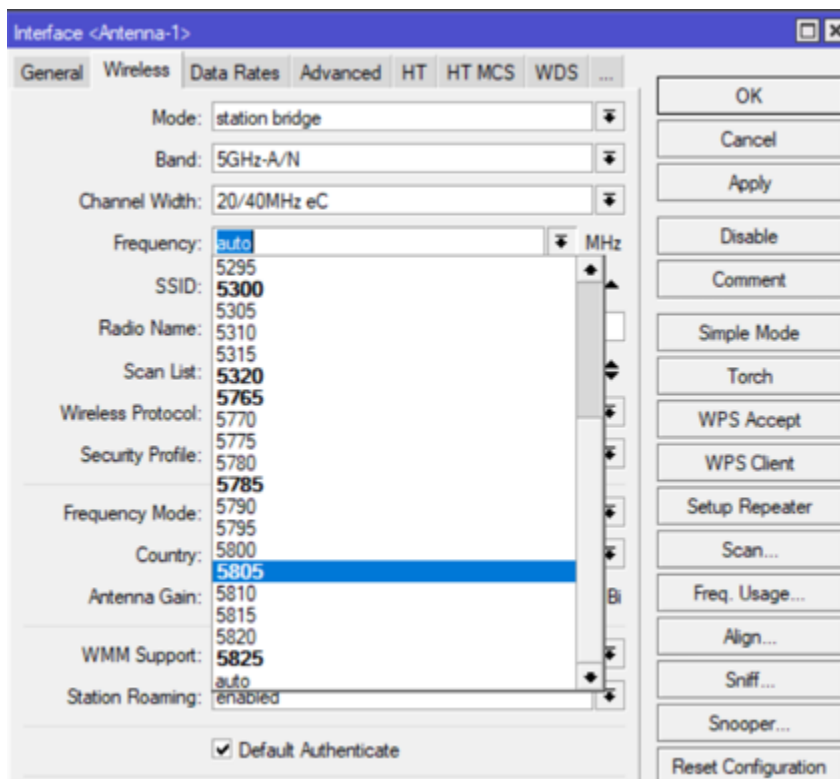

Figure 16. Frequency List
- Click the arrow at the right side of the **Frequency:** field to display the list of available frequencies as shown in Figure 16 below. Select the desired frequency. You will eventually be testing with all of the frequencies, so it is best to start at the top of the list and work your way down.
12. Return to the Wireless Tables window and select the **Registration** tab as shown in Figure 16 below. Record the **Signal Strength (dBm)** in the **Xmit Signal (dBm)** column on the first line of the Wireless Link Test data sheet.